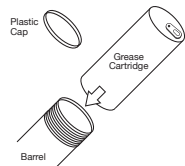

Figure 3
3. Remove the plastic cap from the end of grease cartridge, and insert, open end first, into the barrel. (See figure 3)